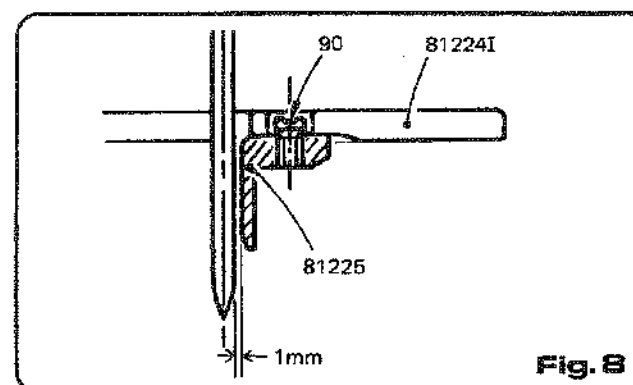

Fig. 8
Mount the needle guard (81255) in the groove on the throat plate (81244IW), as shown in (Figure 8), and adjust its position so that the clearance between the needle and the guard is 1mm. Hold the guard in position by means of the screw (90).
4-7 針ガードの調整 (Fig. 8, 9)
針と針ガードの間隔は、もっとも近づいたとき1mmです。 (Fig. 8)